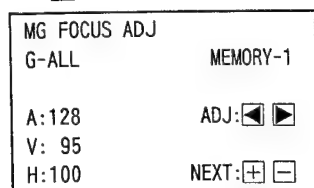

Fig. 6
3. Use the (**[◀]** and **[▶]**) arrow keys to set the A: data to 128. (Fig. 6)